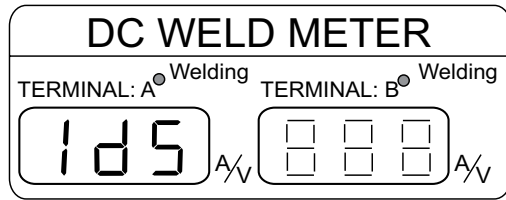

Figure 45. DC Weld Meter (Idle Stop)
- The welding process will be stopped once the preset time (1-30 minutes) has been reached. The engine will shutdown and the "1d5" message will be displayed on the DC Weld Meter (Figure 45).